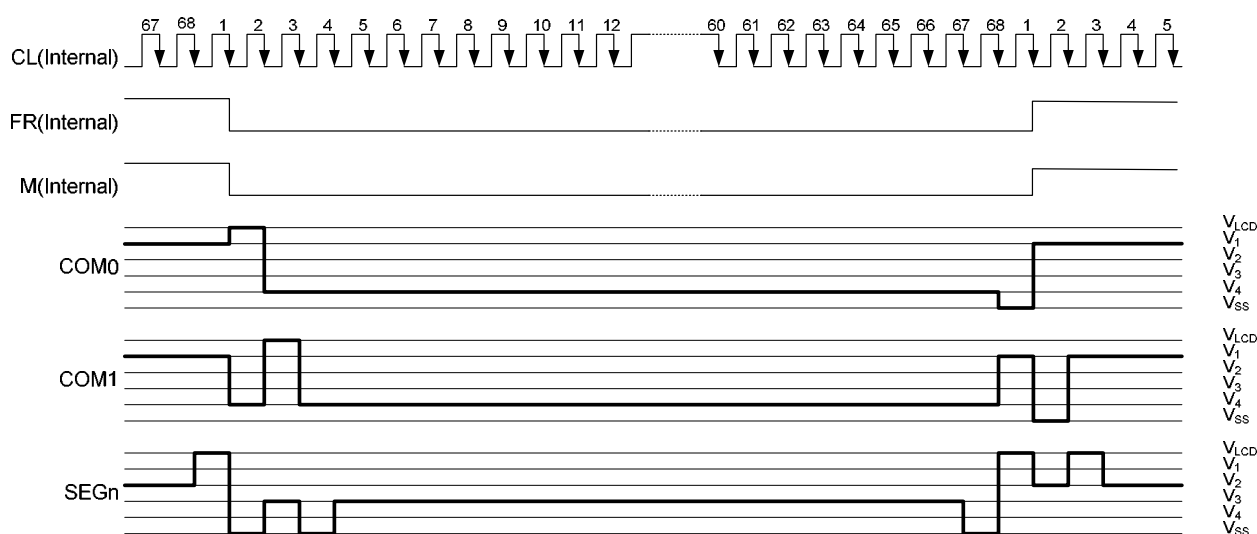

Figure 7.8.1 2-frame AC Driving Waveform (Duty Ratio: 1/68)
This circuit generates some signals to be used for displaying LCD. The display clock, CL (internal), generated by oscillation clock, generates the clock for the line counter and the signal for the display data latch. The line address of on-chip RAM is generated in synchronization with the display clock and the display data latch circuit latches the 68-bits display data in synchronization with the display clock. The display data, which is read to the LCD driver, is completely independent of the access to the display data RAM from the microprocessor. The display clock generates an LCD AC signal (M), which enables the LCD driver to make an AC drive waveform, and also generates an internal common timing signal and start signal to the common driver. The frame signal or the line signal changes the M by setting internal instruction. Driving waveform and internal timing signal are shown in Figure 7.8.1.